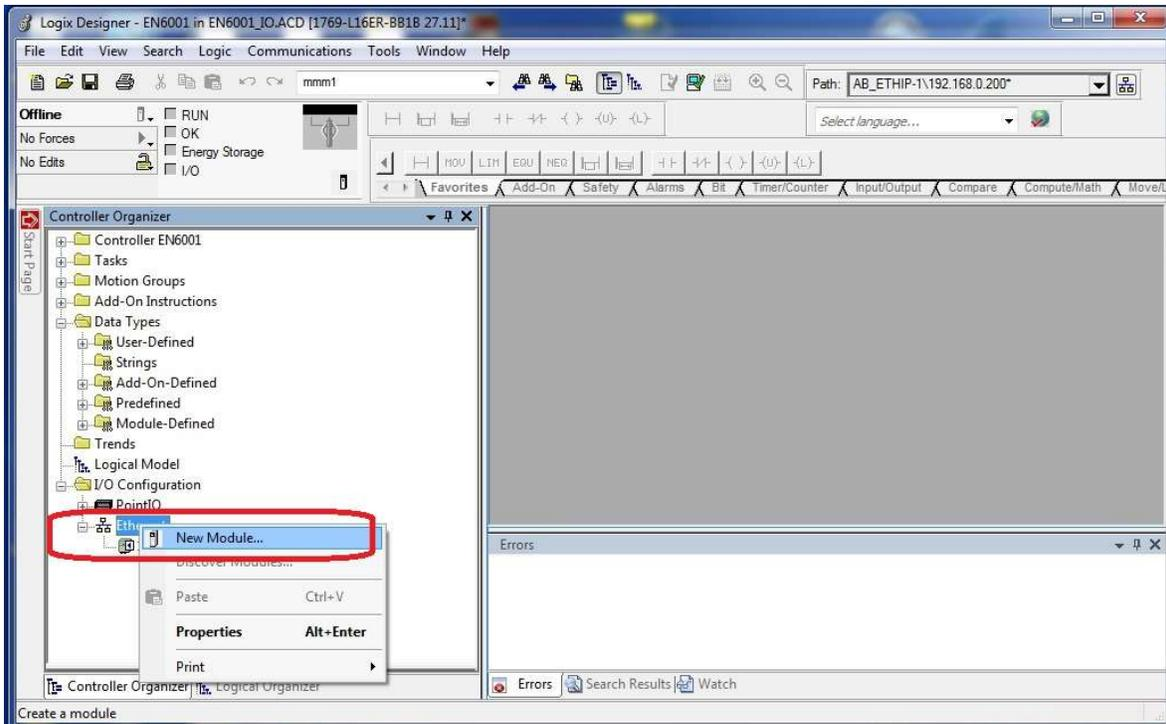

Figure 5 Create new module
2.2.1.1. While Offline, right-click on the EtherNetIP gateway in the I/O configuration and select **New Module**, as shown in Figure 5.